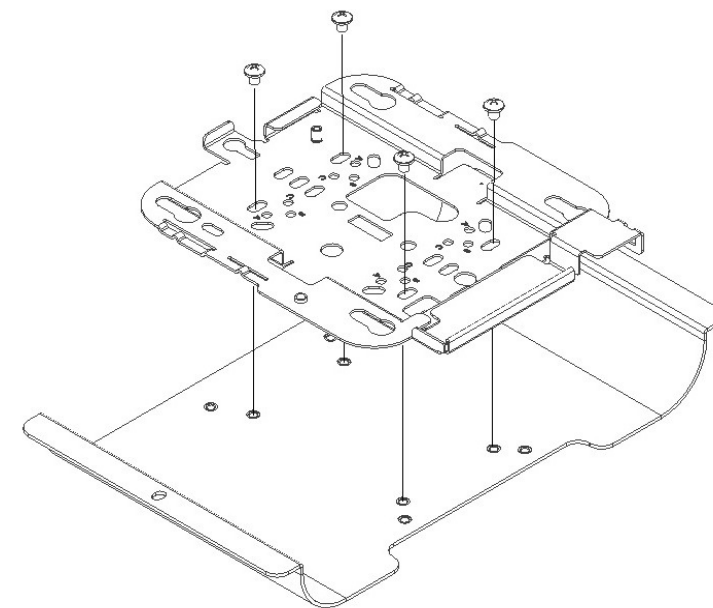

Figure 2
Step 5 - Attach the *Cisco mounting plate* to the *Oberon access point mounting bracket* using the four (4) #8-32 screws provided. The *Cisco mounting plate* should be aligned with the *Oberon access point mounting bracket* so that the cable entry on the *Cisco mounting plate* is positioned toward the cutout of the *Oberon access point mounting bracket* (Ref. Figure 2).